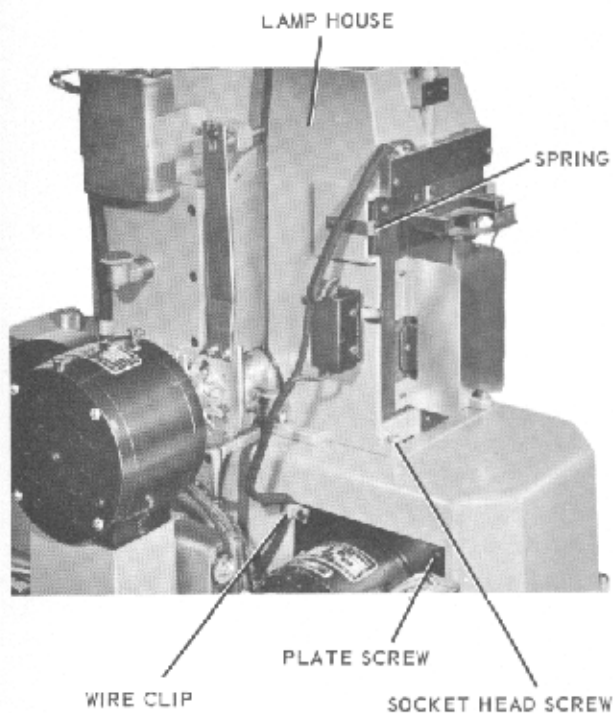
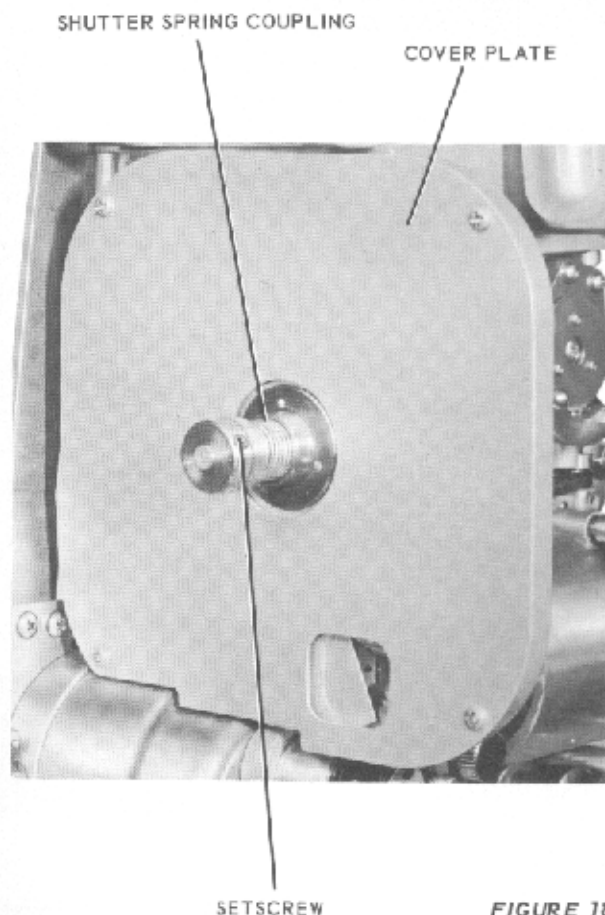

FIGURE 17
FIGURE 18
a. Remove the four SOCKET HEAD SCREWS, figure 17, from the LAMP HOUSE. Remove the plate screw and WIRE CLIP. Pull the lamp house toward the rear of the projector until the SHUTTER SPRING COUPLING, figure 18, is exposed; then move the lamp house out of position.
b. Remove the remaining three PLATE SCREWS, figure 17.
a. Remove the shutter housing COVER PLATE, figure 18.